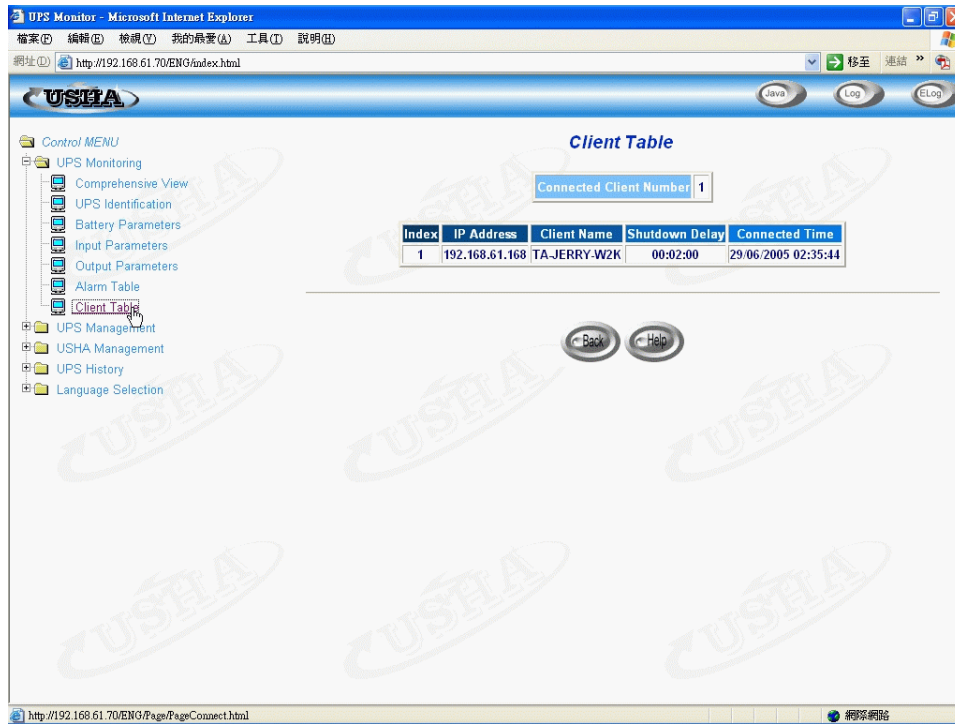

Figure 6-2 USHA connected (registered) devices list.
3. Select *Client Table* from *UPS Monitoring* of the main menu and the list of the connected devices will be shown on the screen (Figure 6-2).